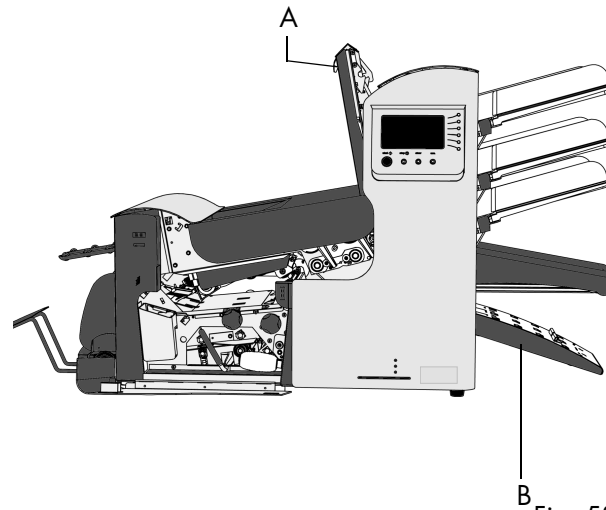

Fig. 53
- pull the hand grip A up (fig. 53) and pull the upper unit into vertical position.
- pull down the collator plate B (fig. 53).